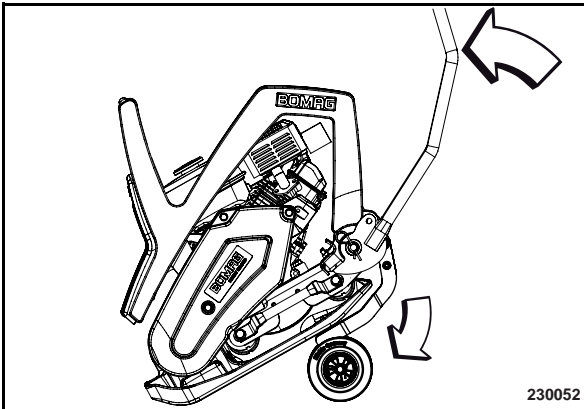

Fig. 36
- Push the vibratory plate up by the guide handle (Fig. 36) and fold the transport wheels under the base plate.